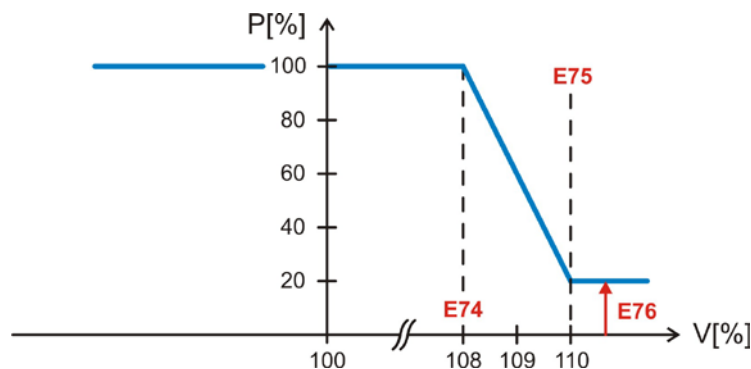

Figure 13 – P(V) characteristic for PV/Hydro/Wind
4.15.1 P(V) for PV and Wind/Hydro
In case of PV or Wind/Hydro application the P(V) function limits the active power according to Figure 13. When the grid voltage increases over the threshold **E74-CTRL_PV_V1S**, the power is automatically limited with a linear characteristic that decreases the power to a minimum value equal to **E76-CTRL_PV_P_LIM** at voltage **E75-CTRL_PV_V2S**. When the voltage decrease, the P(V) characteristic is executed in the opposite way and will stop at the current power value.